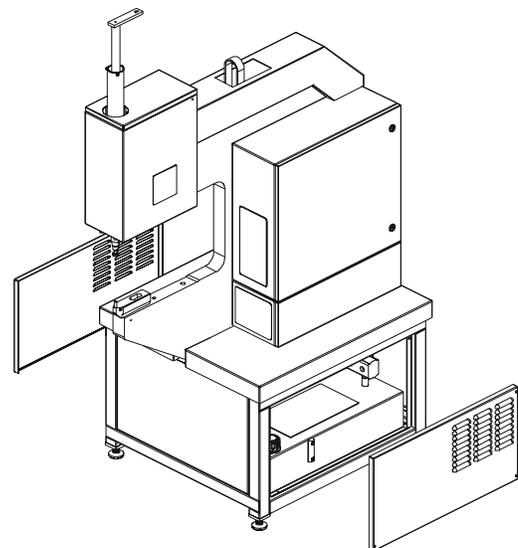

Figure 3.2: Remove the left and right Side Panels
- If the machine is not yet filled with oil, remove the sides of the machine (see Figure 3.2) Fill the machine with AW-32 or equivalent premium hydraulic oil. Replace the sides when finished.